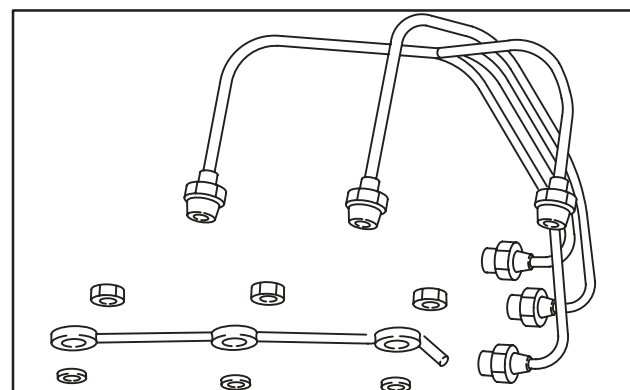

Fig. 12 – Removing Fuel Lines
- Remove fuel delivery lines, Fig. 12.